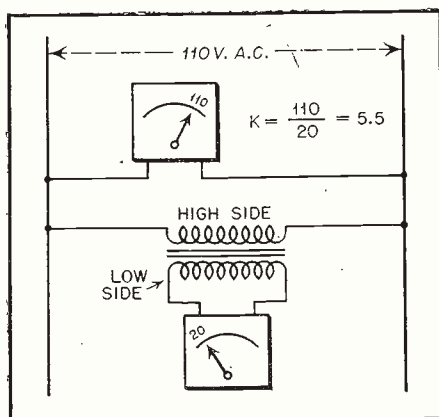

Figure 5
a multiplier, read a voltage with and without the transformer multiplier in circuit. Divide the reading taken without the multiplier transformer in use by the reading with the multiplier transformer in use to obtain the (K). (See Fig. 5). To obtain the true voltage when using the multiplier with this same voltmeter, multiply all scale readings by (K). Be sure to connect the low voltage side of the transformer to the meter.